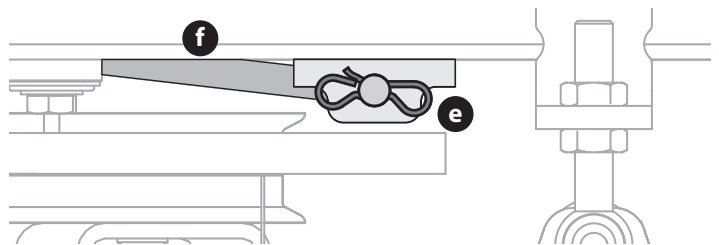

Fig. 38
6. Remove the bow tie clips (e) securing the front deck control rods (f) to the left and right sides of the deck (Fig. 38).